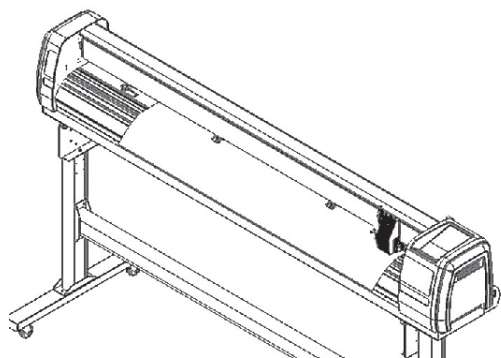

Figure 4-15
3. After loading the roll media all pinch rollers are raised at this stage, flatten the media on the platen and hold the front edge of the roll media firmly (Figure 4-15).